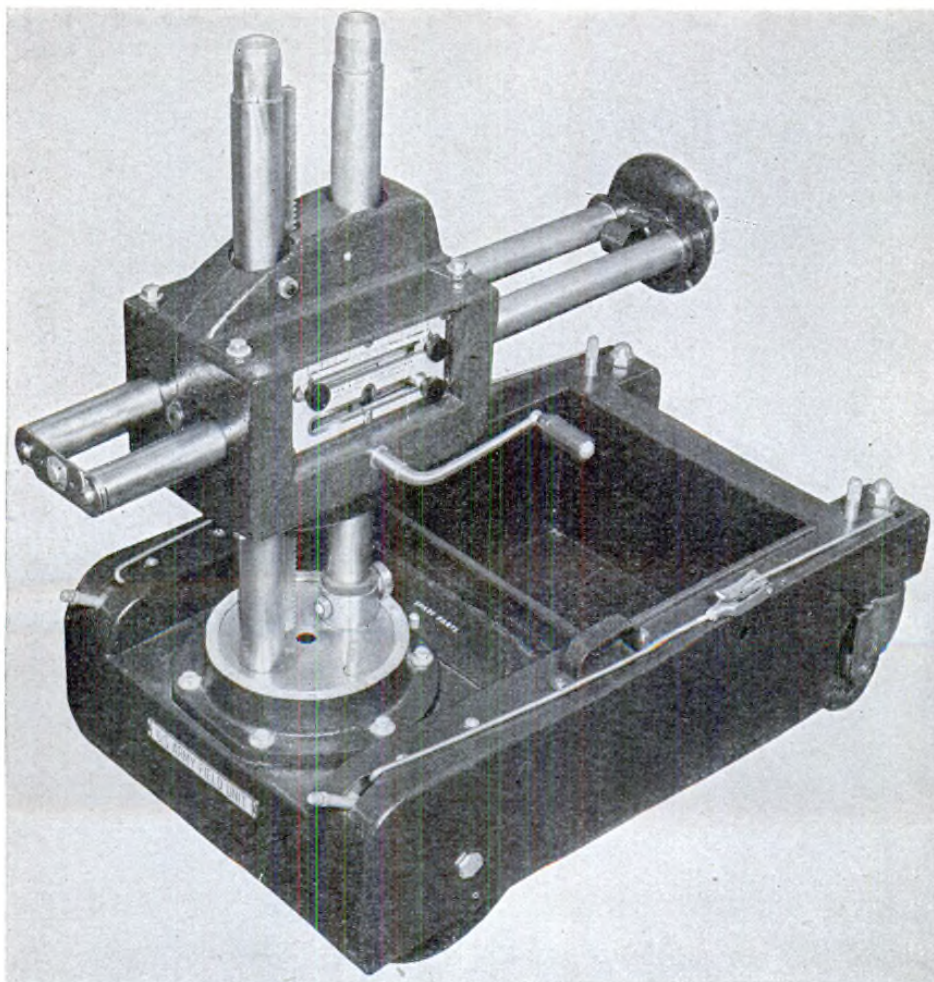

Figure 31. Chassis, lower mast section, cross-arm carriage, part of Chest MD X-1, old type, item No. 9609005.
a. WHEN CHEST MD X-1, (NEW TYPE OR OLD TYPE), IS SUPPLIED. (1) After the chassis, the lower mast section, and cross-arm carriage have been assembled, join the two separate center sections of the vertical mast to the corresponding lower mast columns.
(2) Remove the end plate assembly of the horizontal cross arm and carefully insert the twin tubes of this arm into the end of the vertical cross-arm carriage identified by the nameplate "U. S. ARMY FIELD UNIT." Be sure to guide the twin tubes through the double set of ball bearings and through the shift lock sleeve carefully. Insert the horizontal tube arm into the carriage the full distance and replace the end plate assembly to its original position. (See fig. 31.)
(3) Complete the mast assembly by joining the upper section of the mast to the center mast sections.